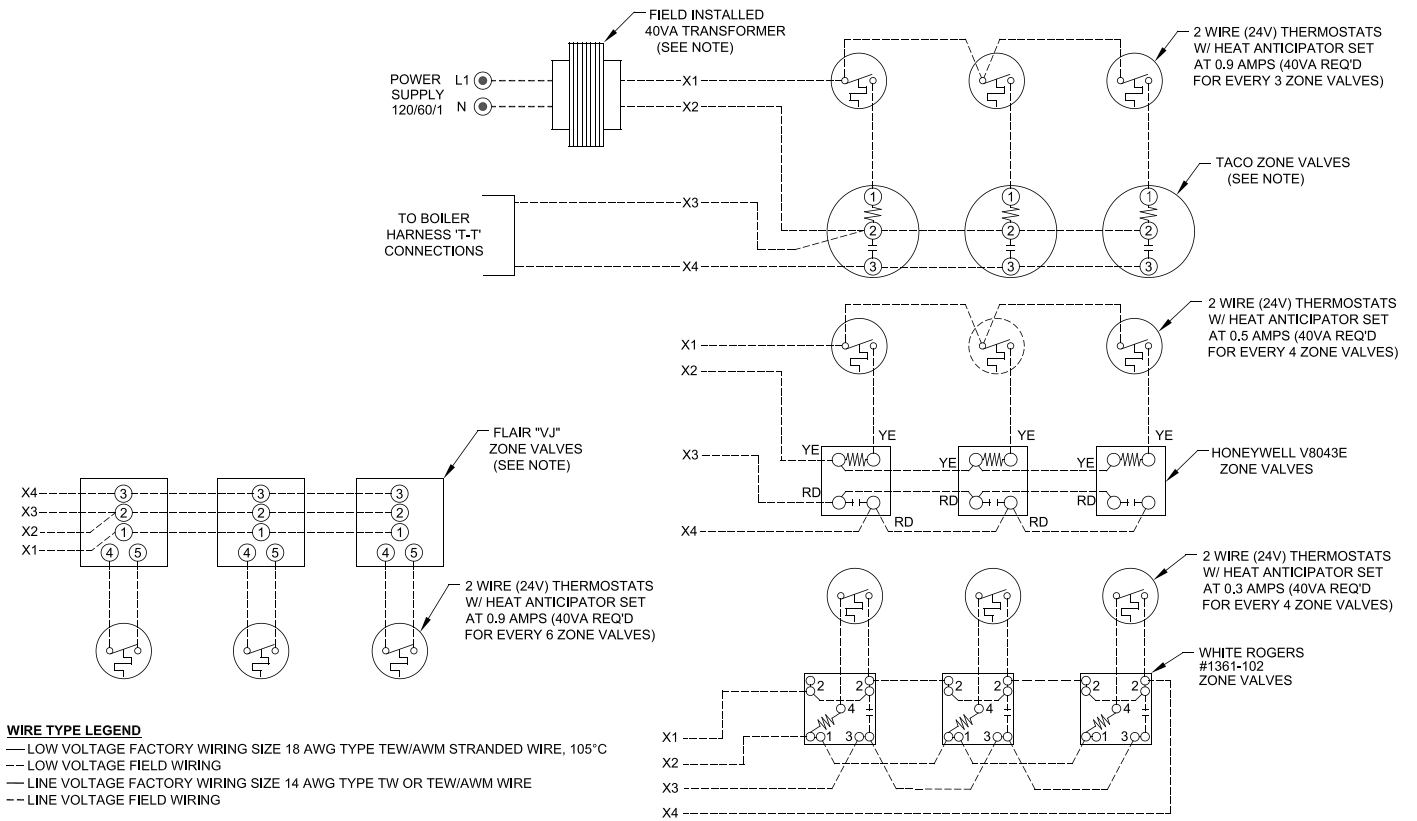

Figure 13: Wiring Schematic, Zone Valves
- E. For installations using zone valves** provide separate transformer for zone valve wiring. Consult zone valve manufacturer for assistance. See Figure 13.